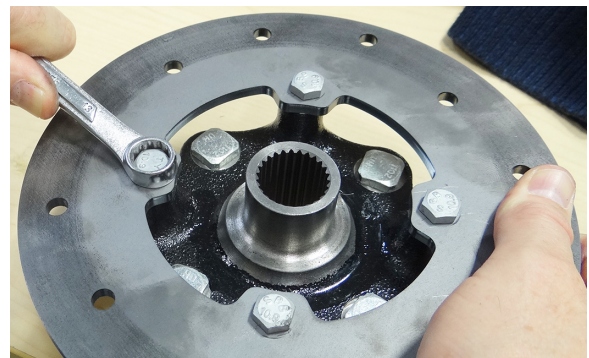

Fig. 7 Rotor Replacement
4. Remove the four bolts that secure the rotor to the hub. Remove the rotor (Ref. Fig. 7).